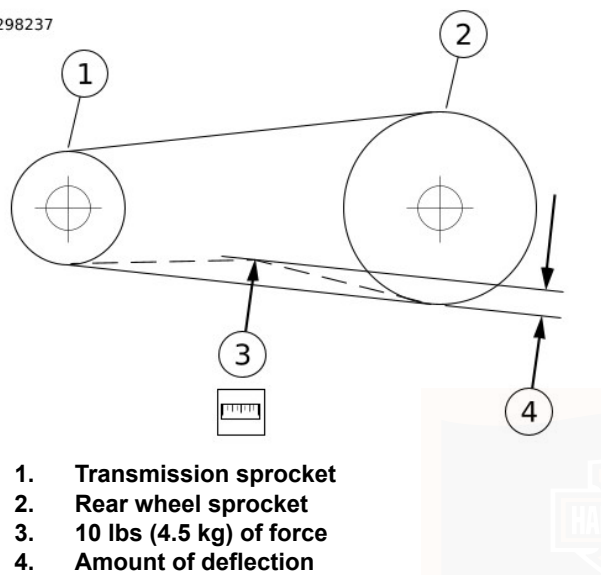

Figure 54. Checking Belt Deflection
3. See Figure 54. Fit cradle against bottom of belt midway between transmission sprocket and rear sprocket.